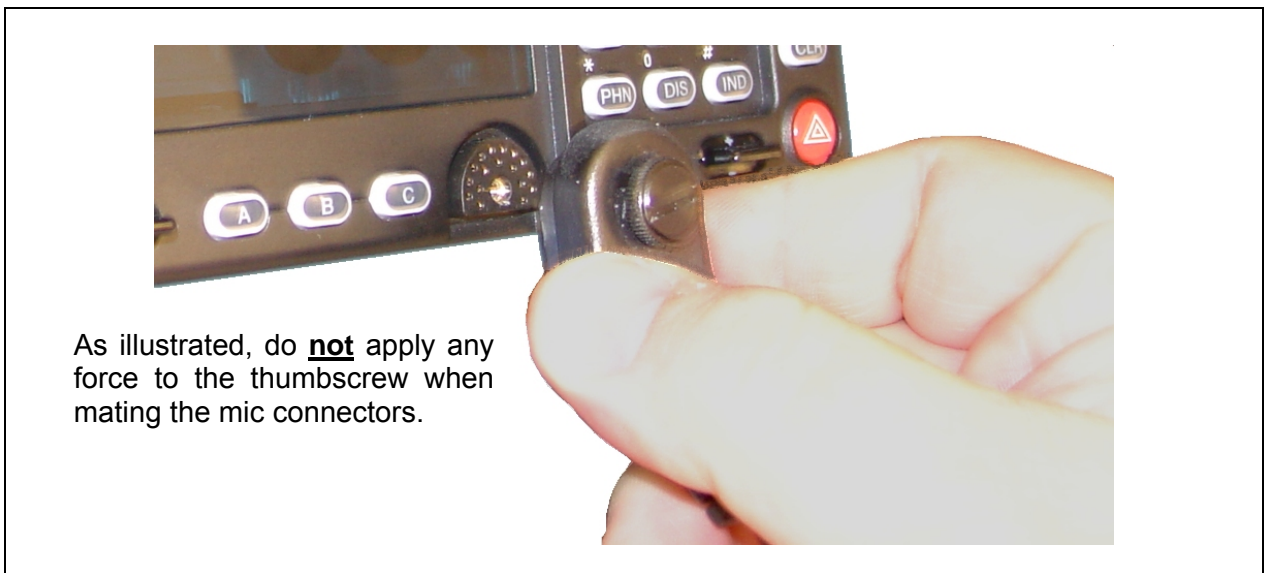

Figure 12-1: Attaching the Microphone to the CH-721 Control Head
4. As illustrated in Figure 12-1, grasp the mic's connector with a thumb and index finger on the sides of the connector just adjacent to the thumbscrew.